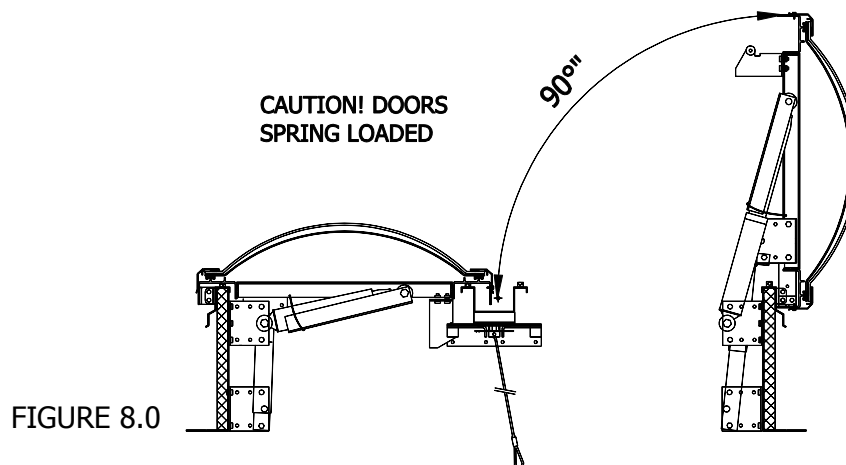

FIGURE 8.0
- **Safety Caution:** Do not stand over the smoke vent doors when shipping straps are removed or during subsequent testing. Smoke vents are pre-loaded with high tension coil springs (See Figure 8.0). If an installer were to get struck in the upper torso or head by an opening smoke vent door the result could be serious injury or death.